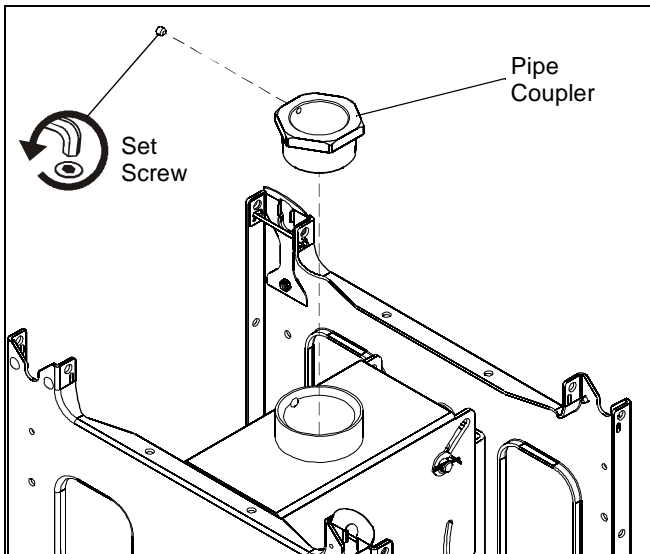

Figure 1
- If NPT pipe is 2", loosen set screw and remove the 1-1/2" to 2" pipe coupler, then proceed to Step 3. (See Figure 1)